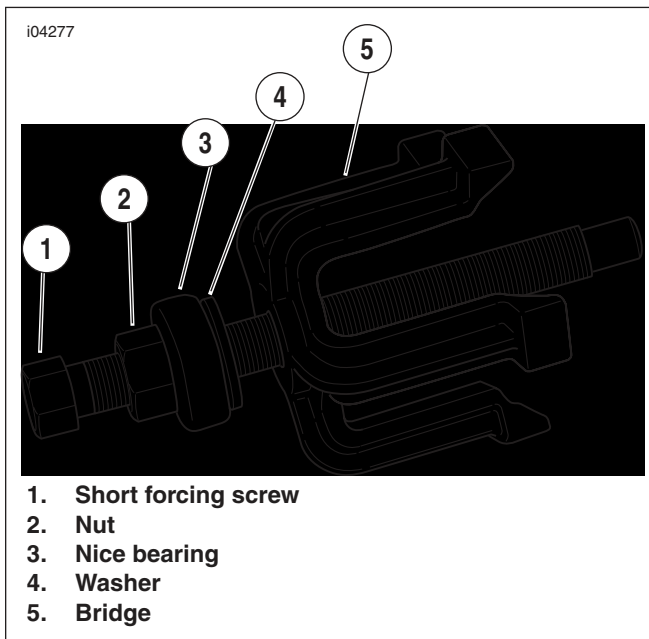

Figure 2-7. Assemble Puller
1. See Figure 2-7. Remove wheel bearings using WHEEL BEARING REMOVER/INSTALLER KIT (Part No. B-43993-50) and WHEEL BEARING REMOVER AND INSTALLER (Part No. HD-44060).
2. Sparingly apply EXTREME PRESSURE LUBRICANT (Part No. J-23444-A) to the threads of the short forcing screw (1) to prolong service life and ensure smooth operation.